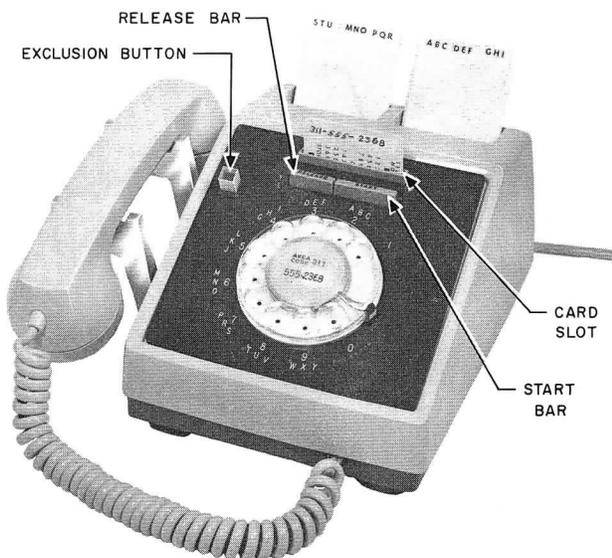

Fig. 1 - 660-Type Telephone Set
2.01 The 660-, 663-, 1660-, and 1663-type telephone sets (Fig. 1 and 2) are similar in appearance to other card dialer sets.
2.12 The exclusion feature, if provided, is actuated by pulling up on the plastic button (Fig. 1 and 2) at the top left of the faceplate. The exclusion switch is connected to the switchhook assembly by a wire link so that exclusion is cancelled when the handset is restored. Sets can be converted to provide exclusion by the installation of a kit of parts. (See Table A.)